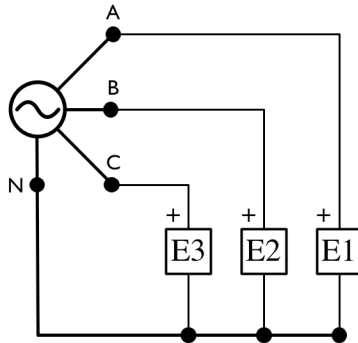

Figure 1.8: Phase Voltage Measurement
- 42. Turn off the power and reconnect voltmeters E1, E2, and E3 to simultaneously measure the PHASE voltages of the fixed voltage three-phase power supply, as shown in Figure 1.8.